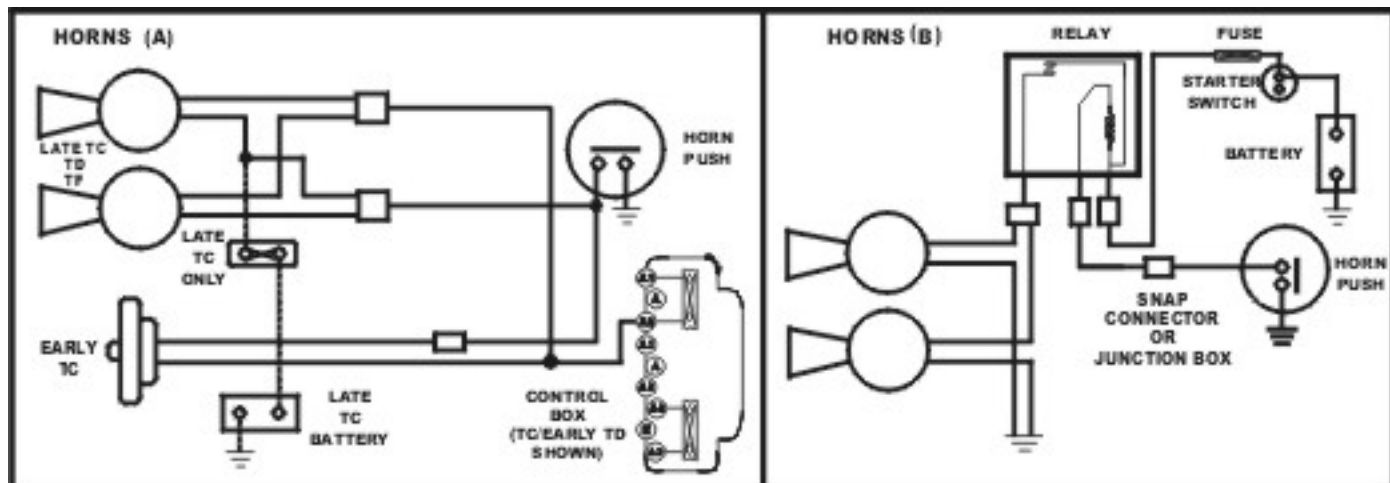

Figure 3. Typical Horn Circuit Wiring
Horns on the MG cars are generally connected directly to a 12-volt source, thus are "hot" all the time (see schematic HORNS (A) in Figure 3).
On other cars, a relay is used to minimize the current carried by the horn contacts and to reduce the voltage drop in the horn wiring (see schematic HORNS (B) in Figure 3). If desired, the direct-connected horns may be wired this way, too.